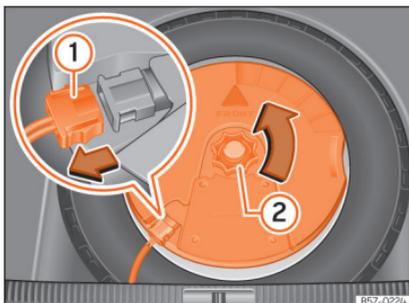

Fig. 280 In the luggage compartment: remove the subwoofer.
- Disconnect the *subwoofer* »» Fig. 280 ① speaker cable.
- Turn the securing wheel in an anti-clockwise direction »» Fig. 280 ②.